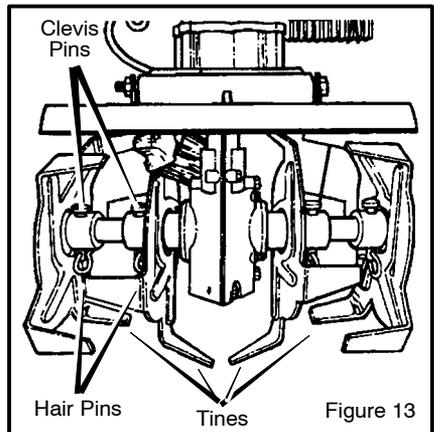

Figure 13
2. While wearing gloves, remove the **hair-pins** and **clevis pins** that secure the tine assemblies to the shaft (see Figure 13). Remove the tines from the shaft.